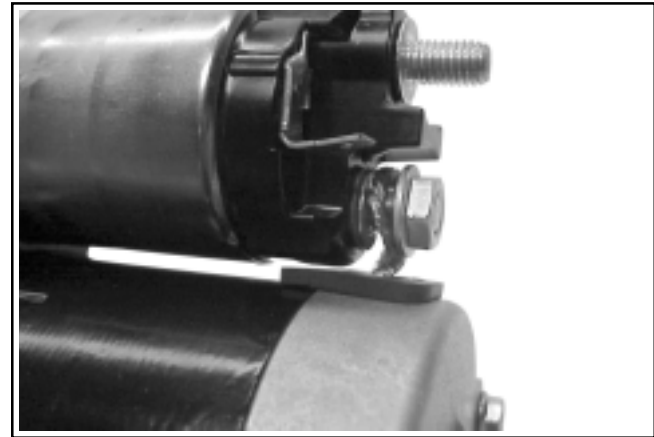

Figure 8-59. Connecting Brush Lead.
14. Connect the braided (brush) lead to lower main solenoid terminal and secure with the loose hex. flange nut. See Figure 8-59.